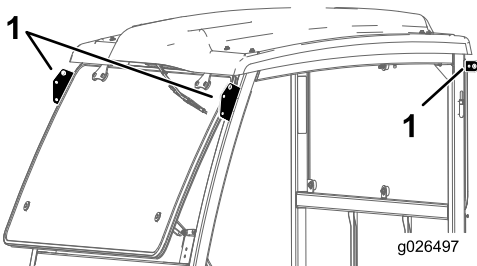

Figure 7
2. Lift the cab frame using the lifting points and place it on the machine (Figure 7).